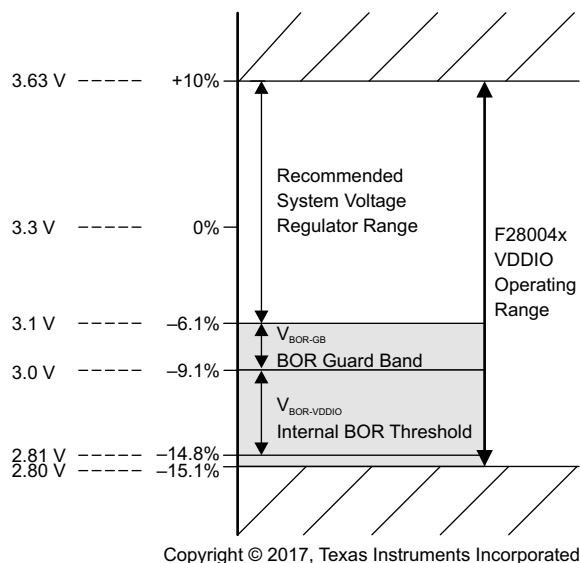

Figure 7-1. Supply Voltages
- (1) Operation above T_J = 105°C for extended duration will reduce the lifetime of the device. See Calculating Useful Lifetimes of Embedded Processors for more information.
- (2) The VDDIO BOR voltage (V_{BOR-VDDIO}(MAX)) in Electrical Characteristics determines the lower voltage bound for device operation. TI recommends that system designers budget an additional guard band (V_{BOR-GB}) as shown in Figure 7-1.
- (3) Internal BOR is enabled by default.
- (4) Supply ramp rate faster than this can trigger the on-chip ESD protection.
- (5) TI recommends V_{BOR-GB} to avoid BOR resets due to normal supply noise or load-transient events on the 3.3-V VDDIO system regulator. Good system regulator design and decoupling capacitance (following the system regulator specifications) are important to prevent activation of the BOR during normal device operation. The value of V_{BOR-GB} is a system-level design consideration; the voltage listed here is typical for many applications.